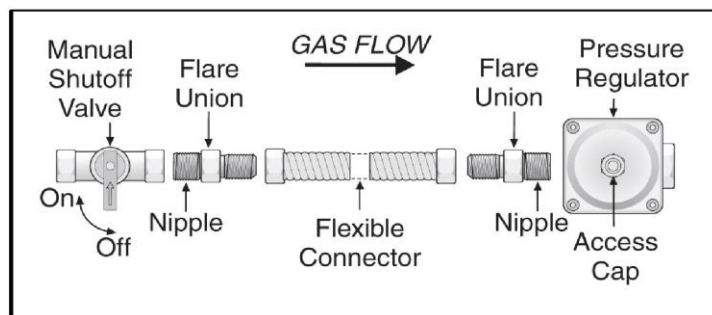

Figure 14
tightening may crack the regulator resulting in a gas leak and possible fire or explosion (see Figure 14).
- 5) Screw the regulator cap back into the regulator and re-attach the regulator to the nipple and flare union (see Figures 14 and 23).